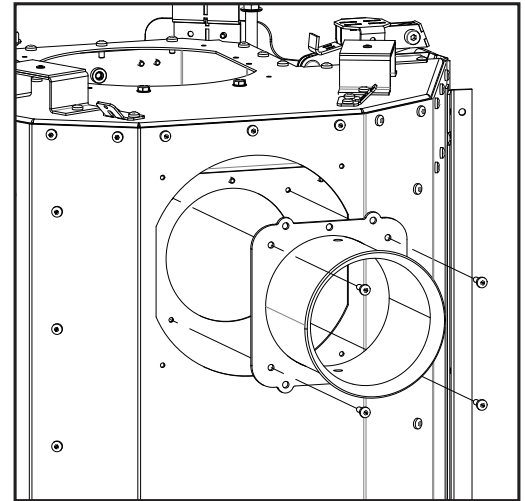

Figure 71: Exhaust Spigot Attachment
10. Attach the exhaust spigot to where the block-off plate was removed (see Figure 71).